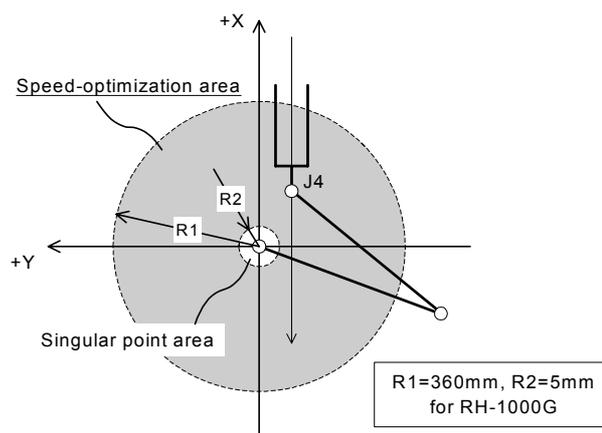

Fig.4-21: Speed-optimization area and singular point area.
- This instruction functions only for XYZ interpolation. It does not function for JOINT interpolation and CIRCULAR interpolation. Also, it does not function for linear interpolation by which the J4 axis does not pass through the speed adjustment area and the singular point as shown in Page 215 "Fig. 4-21 Speed-optimization area and singular point area."
- (4) If the END instruction or a program reset operation is executed, the status of the speed adjustment function returns to the initial state immediately after the power is turned on.
- (5) When the speed adjustment function is enabled, error 2804 will be generated if the XYZ interpolation by which the J4 axis passes through a singular point area shown in Fig. 4-21 is executed, and the operation is then suspended.
- (6) Even if this instruction is described in a program, it is ignored on models other than the applicable models.
- (7) Even if the speed adjustment function is enabled, an exceeded speed error may be generated if a path is connected by enabling the CNT instruction near the origin point, or a XYZ interpolation operation that drastically changes the posture is executed. In such a case, move the position where a path is connected away from the origin point, or adjust the speed by using the OVRD instruction.
- (8) In the case of a XYZ interpolation that operates slightly in the horizontal direction but operates significantly in the vertical direction, the operation speed may degrade drastically when the speed adjustment function is enabled vs. when it is disabled. In such a case, disable the speed adjustment function, or operate by using a JOINT interpolation (MOV instruction).